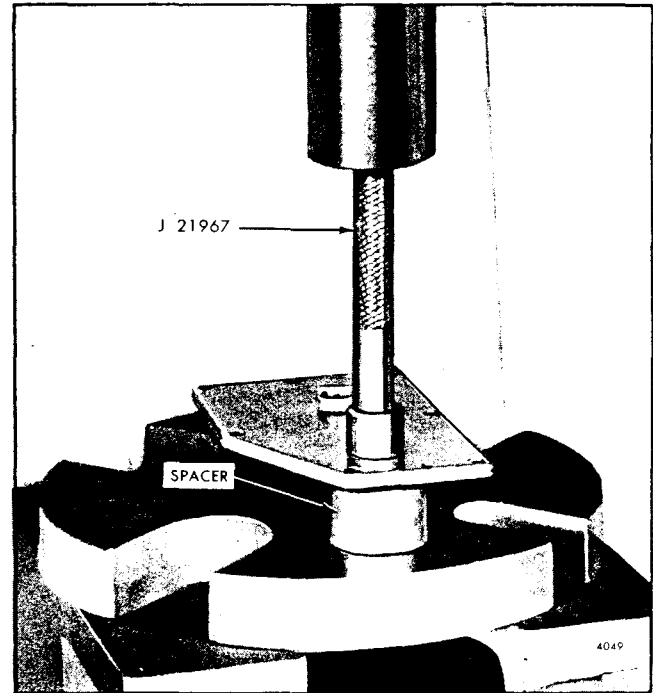

Fig. 5 - Removing Governor Cover Bearings
5. If the bearings (or bushing) are to be removed, place the governor cover with the inner face down on an arbor press. Place a hollow spacer between the cover and the bed of the press (Fig. 5). Place the bearing remover J 21967 on top of the upper bearing (or bushing) and press both bearings (or bushing) out of the cover.